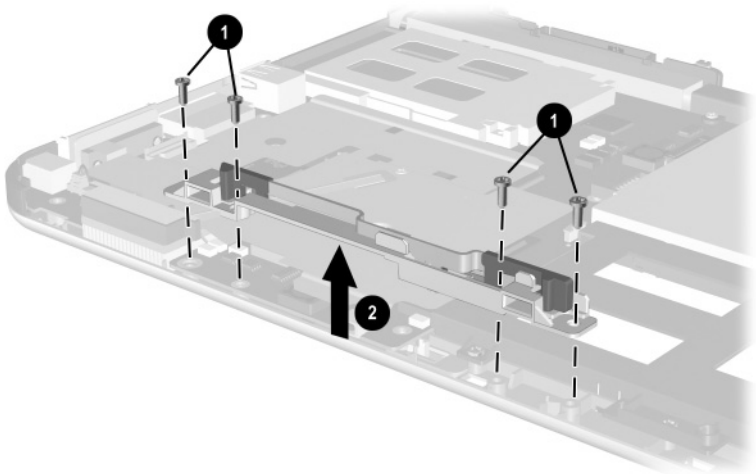

Figure 5-20. Removing the Keyboard Release Assembly
4. Remove the four TM2.5 × 7.0 screws ❶ that secure the keyboard release assembly to the base enclosure (Figure 5-20).
5. Lift the keyboard release assembly straight up ❷ and remove it from the base enclosure.